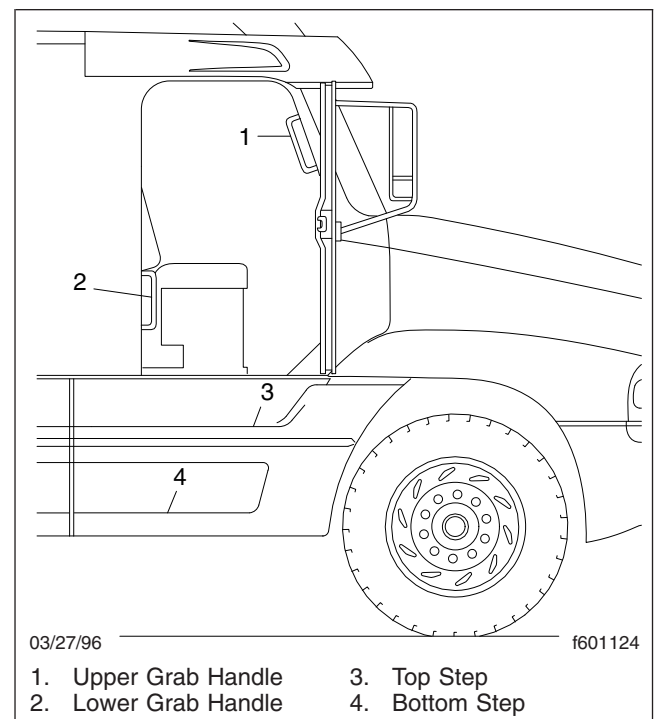

Fig. 3.4, Passenger's Side Steps and Grab Handles
Entering the Passenger's Side (Fig. 3.4)
3. Grasp the handle on the door (Fig. 3.4) with your right hand.
Exiting the Passenger's Side (Fig. 3.4)